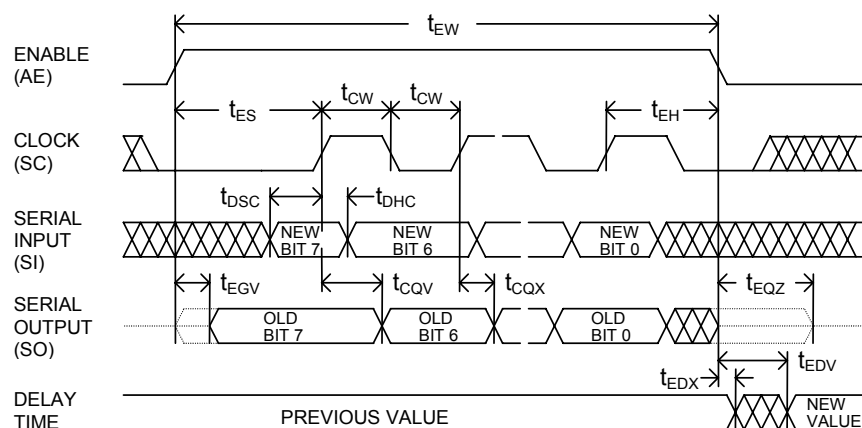
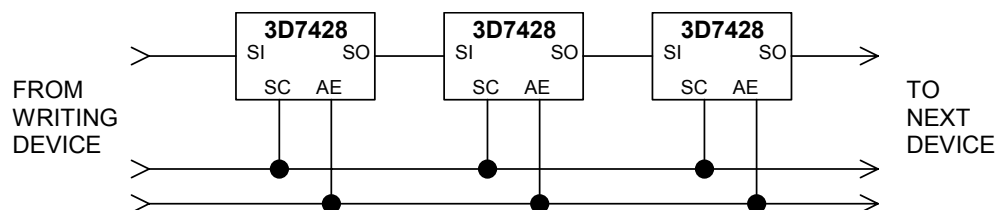

Figure 4: Serial mode (MD=0)
Figure 5: Cascading Multiple Devices
While observing data setup ( $t_{DSC}$ ) and data hold ( $t_{DHC}$ ) requirements, timing data is loaded in MSB-to-LSB order by the rising edge of the clock (SC) while the enable (AE) is high, as shown in Figure 4. The falling edge of the enable (AE) activates the new delay value which is reflected at the output after a settling time  $t_{EDV}$ . As data is shifted into the serial data input (SI), the previous contents of the 8-bit input register are shifted out of the serial output port pin (SO) in MSB-to-LSB order, thus allowing cascading of multiple devices by connecting the serial output pin (SO) of the preceding device to the serial data input pin (SI) of the succeeding device, as illustrated in Figure 5. The total number of serial data bits in a